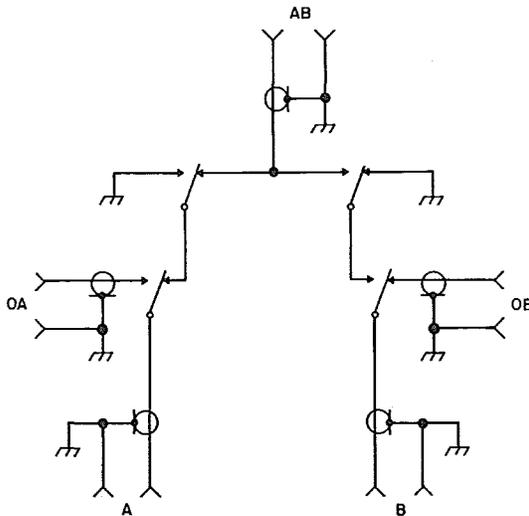
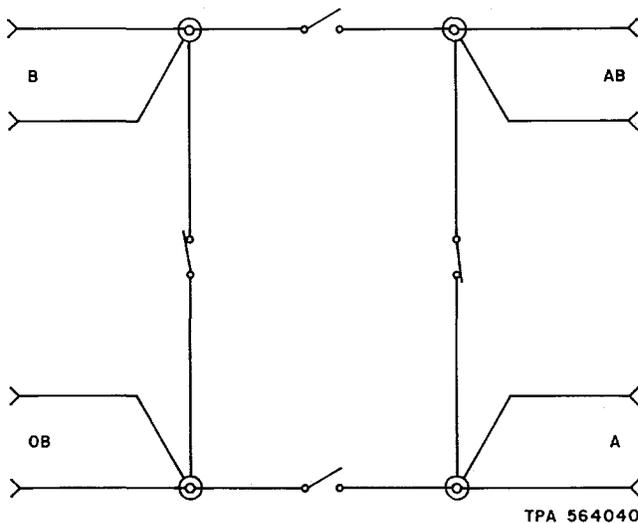

Fig. 5 — 223A Coaxial Switch Schematic Shown in Normal (Released Condition)
Fig. 6 — 223E Coaxial Switch Schematic Shown in Normal (Released Condition)
1.04 There are two separate transmission paths through the switches. In all switches, with the switch normal, the paths are: Path A to AB and Path B to OB. With the switches operated, the paths for the 223A, 223B, and 223C switches are: Path A to OA and Path B to AB. See Fig. 5. For the 223D and 223E switches, these paths are: Path A to OB and Path B to AB. See Fig. 6.